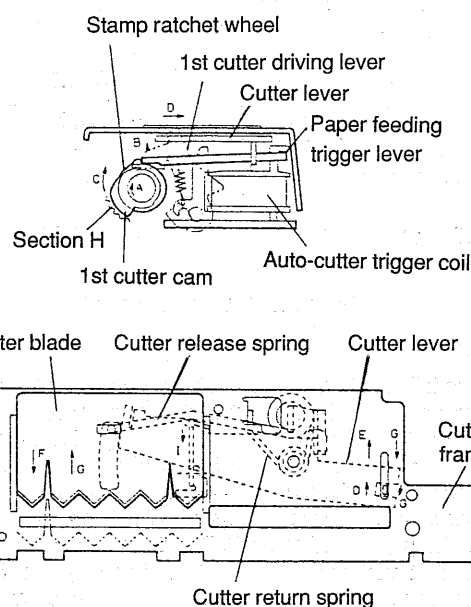

Figure 1.24 Full-cut operation
- ① When the paper feeding gear rotates as the result of motion transmitted via the row of gears (see section 1.4.1 on the Transmission Mechanism), the paper feeding shaft rotates in direction  $\Rightarrow$  A (see Figure 1.24). Because there is no current to the auto-cutter coil at this time, the paper feeding trigger lever (trigger lever for auto-cutter) and the stamp ratchet wheel (ratchet wheel for auto-cutter) remain locked together. As a result, the stamp ratchet wheel maintains its present state (non-rotating) due to the action of the auto-cutter clutch spring, and only the paper feeding shaft rotates in direction  $\Rightarrow$  A.
During auto-cutting, a current is sent to the auto-cutter trigger coil. When a current is sent, the paper feeding trigger lever is attracted by the auto-cutter trigger coil (direction  $\Rightarrow$  B, see Figure 1.24), thus releasing contact with the stamp ratchet wheel. As a result of action by the auto-cutter clutch spring, the stamp ratchet wheel and the 1st cutter cam start to rotate simultaneously in direction  $\Rightarrow$  C (see Figure 1.24) in linked motion with the paper feeding shaft. When the 1st cutter cam rotates, the cam section causes the 1st cutter driving lever to move in direction  $\Rightarrow$  D (see Figure 1.24). Because the 1st cutter driving lever and the cutter lever are joined, the cutter lever moves in direction  $\Rightarrow$  E. Due to the motion of the cutter lever, the cutter blade joined with the cutter lever moves in direction  $\Rightarrow$  F and cuts the paper (see Figure 1.24).
- ② The 1st cutter cam continues to rotate so that the cam section passes the 1st cutter driving lever. At this point, the 1st cutter driving lever, cutter lever and cutter blade return due to the spring force of the cutter return spring (direction  $\Rightarrow$  G, see Figure 1.24). Moreover, when a load is operating that cannot be returned by means of the spring force of the cutter return spring, there is forced return of the 1st cutter driving lever and the 1st cutter cam. Since current to the auto-cutter trigger coil is stopped, the paper feeding trigger lever meshes again with the stamp ratchet wheel due to the spring force of the paper feeding trigger ratchet spring. The rotation of the 1st cutter cam and the stamp ratchet wheel stop and remain in a stand by state.